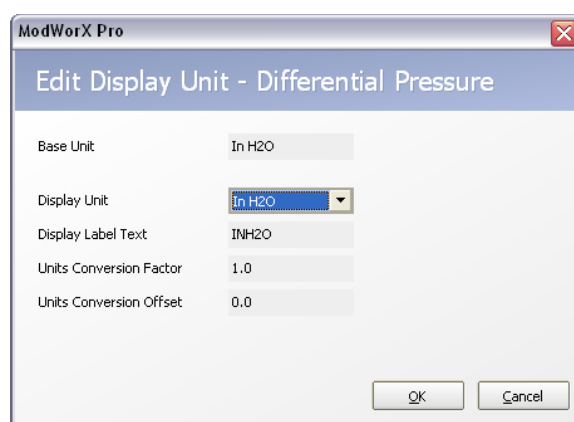

Figure 6.4
- a. Click **Edit**. The Edit Display Unit dialog will appear (Figure 6.4). The base unit is the unit in which the Scanner measures differential pressure from the sensor.